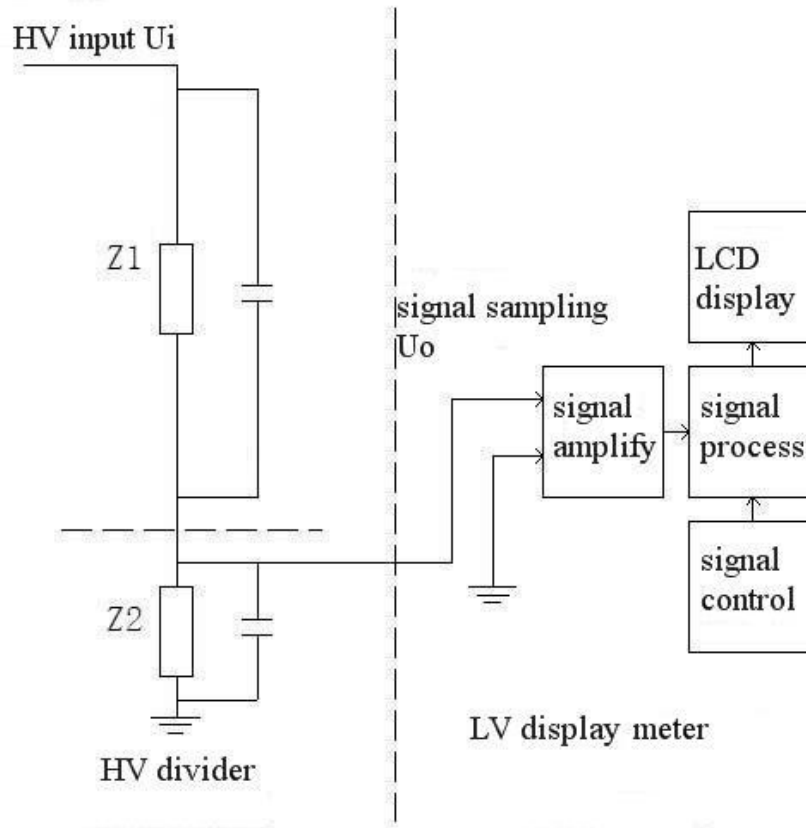

Figure 1 Measuring principle
This device uses resistance-capacitance voltage division method to test HV AC & DC, which as shown in figure 1. The left side is high voltage part, uses resistance-capacitance division circuit, which composed by impedance Z_1 and Z_2 . High voltage U_i input from the upper equipotential ball, low voltage sampling signal output from Z_2 ; the right side is the LV display meter, which used for processing the U_o . U_o is processed by rectifying filter amplifier and displayed by LV display instrument. The relationship between U_i and U_o as shown in formula (1)